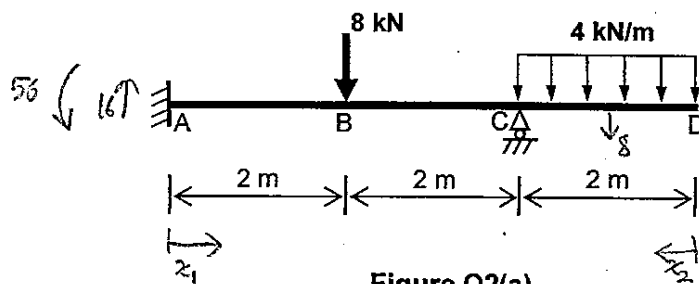

Figure Q2(a)
- (b) The beam ABCD shown in Figure Q2(b) is identical to that in Figure Q2(a), except that the roller support at point C is replaced by a spring with stiffness 400 kN/m . If point C settles (downwards) by 2 cm , given $EI = 1000 \text{ kNm}^2$, calculate the reaction at point C using the Force Method (Flexibility Method).